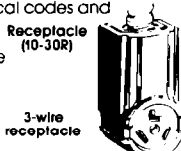

Figure 1
- Local codes may permit the use of a U.L.-listed, 120/240-volt minimum, 30-ampere, dryer power supply cord kit (pigtail). This cord contains three, No.-10 copper wires and matches a three-wire receptacle of NEMA Type 10-30R shown in Figure 1. Connectors on the dryer end must be ring terminals or spade terminals with up-turned ends. A 3/4", U.L.-listed strain relief must be provided at the point the power supply cord enters the appliance.